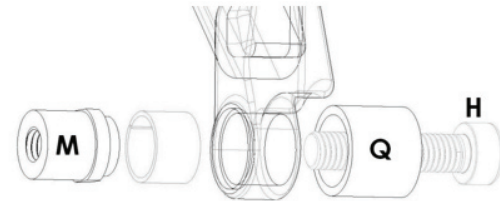

Fig. 11
6. To press fresh DU Bushings into the dropout pivots (Bikes with aluminum rear triangles only) orient the tools as seen in Fig. 11. The DU Press (M) should center itself inside the DU Bushing. Tighten the bolt until the Flange on the DU Press touches the dropout. Repeat for both left and right dropouts.
(Note: See Fig. 11 for correct orientation and placement of parts)